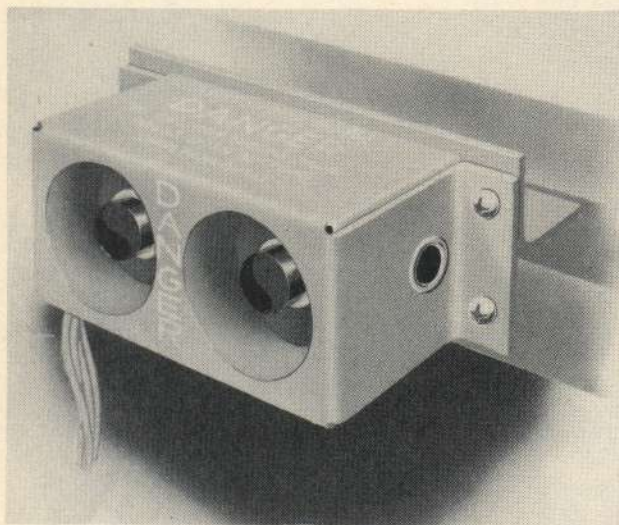

Figure 54—IFF Radio Destroyer Switch
d. **IFF RADIO DESTROYER SWITCH.** — The copilot has the necessary controls and is responsible for destroying the radio receiver if necessary. (See figure 54.)